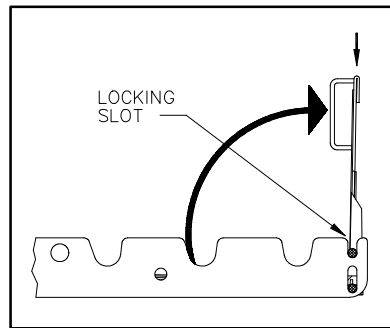

FIGURE 3-8: RAISE OUTER ROLLSTOP
- 3) Refer to **Figure 3-8**. Grasp rollstop handle and raise outer rollstop to vertical position, then drop it into locking slots. Test rollstop to be certain it is locked in place.